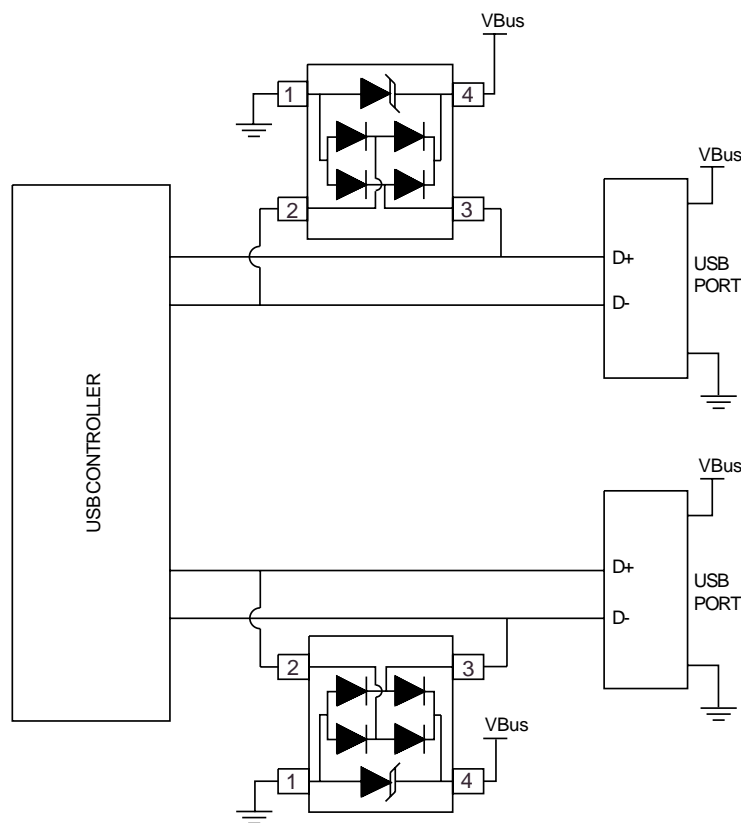

Figure 1. Typical Common-Mode USB Protection
| Peak Pulse Power ($t_p = 8/20\mu s$) - See Figure 1 | P_{PP} | 500 | Watts |
DIFFERENTIAL MODE CONFIGURATION (Figure 1)
Ideal for use in USB applications, two PSR05 devices provides up to two(2) lines of protection(per device) in a common-mode configuration as depicted in Figure 1.